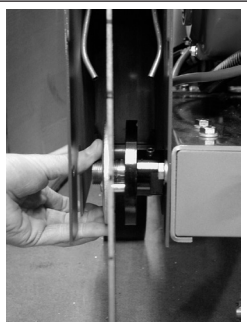

Figure 11
- Carefully place the blade on the arbor shaft and turn until the drive pin hole in the blade lines up with the drive pin hole in the backing plate. (Figure 11) Do not use a blade without a drive pin.